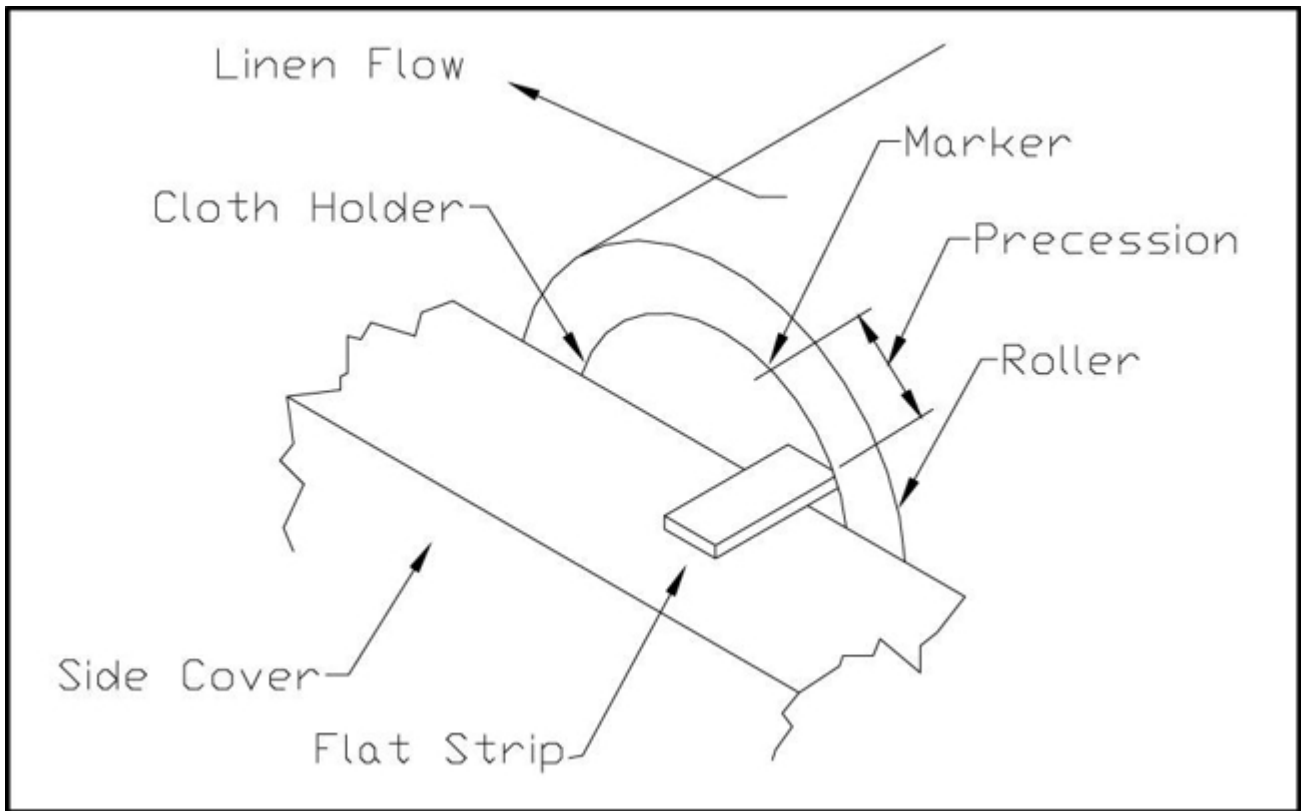

Figure 5.12: Measuring Roll Procession
2. Place a mark on the edge of each roll, and a corresponding mark on the frame of the machine, or a strip of metal near the roll, see figure 5.12 on page 52